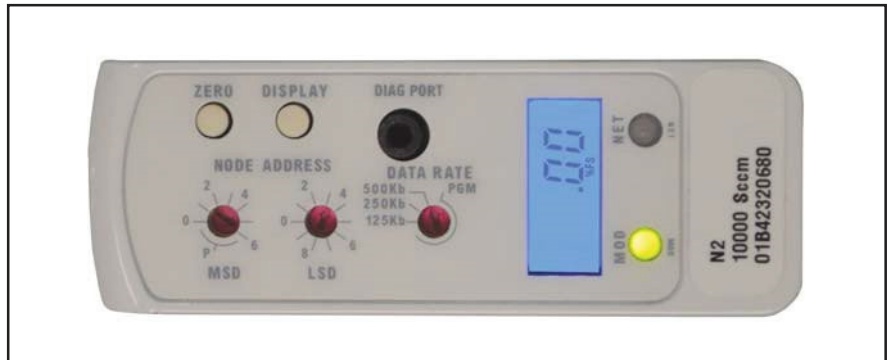

Figure 2-7 % Flow Display Set to Zero
3. Press and hold down the Zero button for a minimum of 5 seconds or until the “%FS” display reads 0.0 as shown in Figure 2-7. The %FS label will flash during this procedure.